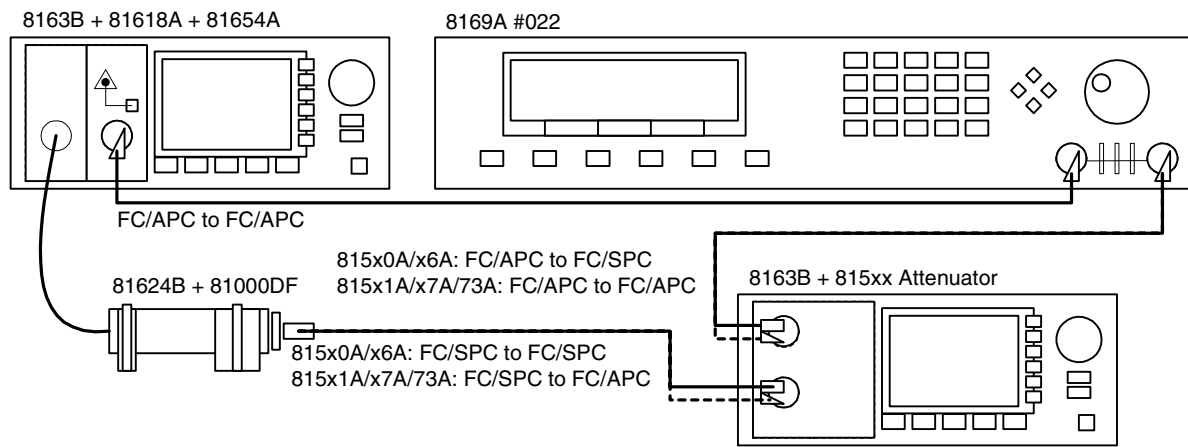

Figure 20 PDL Test Setup (Mueller Method)
- 25 Connect the equipment as shown in Figure 20.